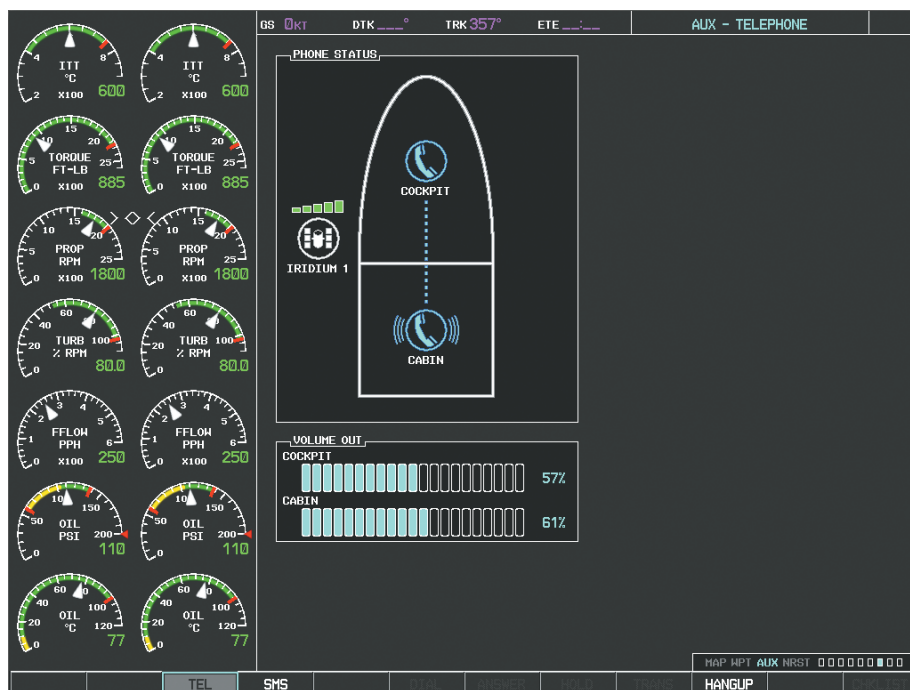

Figure 8-82 Cabin Phone Ringing
- 4) Press the **ENT** Key again. The cabin phone will now ring as seen in Figure 8-82.